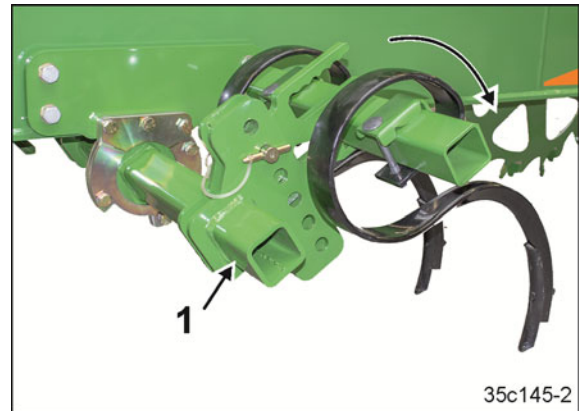

Fig. 210
1. Swivel the tractor wheel mark eradicators into working position (Fig. 210/1):
1. Swivel the tractor wheel mark eradicators into transport position (**Fig. 210/1**):